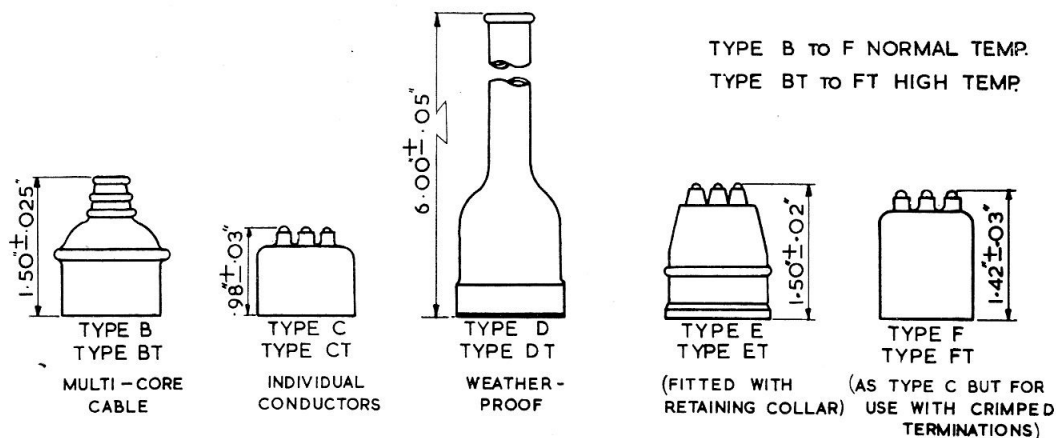

Fig. 7. View of various types of cable grommets
12. After selecting the mark number of switch which offers the required terminations and temperature range, the cable entry grommet needed is specified by the addition of a letter suffix to the mark number, e.g. switch with 6 B.A. terminals, intended for use between the temperatures of -40 and 70 deg. C. and fitted with a weatherproof cable entry grommet would carry the reference "Downmic Mk. 102D". As shown in the illustration (fig. 7), there are ten standard cable entry grommets available, types B to F and types BT to FT. Types B to F are fitted to switches marks 101 and 102 for use in the normal temperature range, -40 to +70 deg. C, and types BT to FT are fitted to switches marks 103 and 104 for use in the extended temperature range, -65 to +150 deg. C.
23. A view of various types of cable grommets used with the 1831Y micro-switch are shown in fig. 7, and a conversion chart from the earlier types to the later types are tabulated in Appendix 1. Fig. 7 and Appendix 1 should be read in conjunction with one another. Maximum overall dimensions of the various types of cable grommets are detailed in Leading Particulars and table 1.